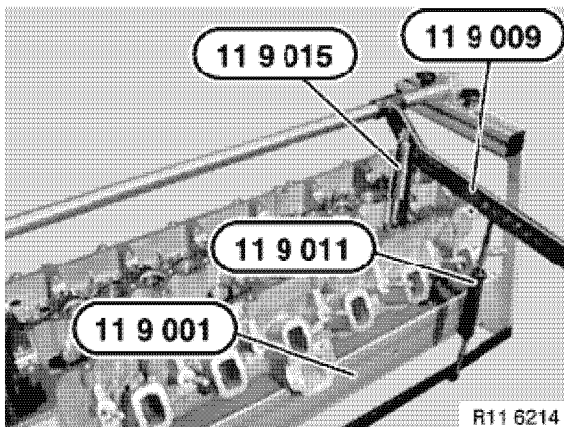

Figure 5-23
- Secure cylinder head to special tool OEM No. 11 9 001 (**Figure 5-23**).